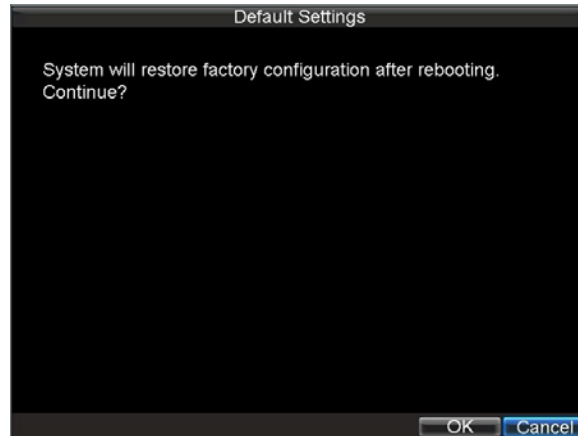

Figure 13. Default Settings Menu
1. Click Menu > Maintenance > Default to enter the Default Settings menu, shown in Figure 13.